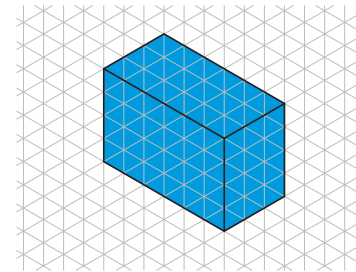

Figure 3-14. The completed isometric sketch of a box.
6. Darken the outline of the box. You may also want to add color to define the box more clearly. For a neater sketch, you may also want to remove *construction lines* that extend beyond the boundaries of the box. See **Figure 3-14**.